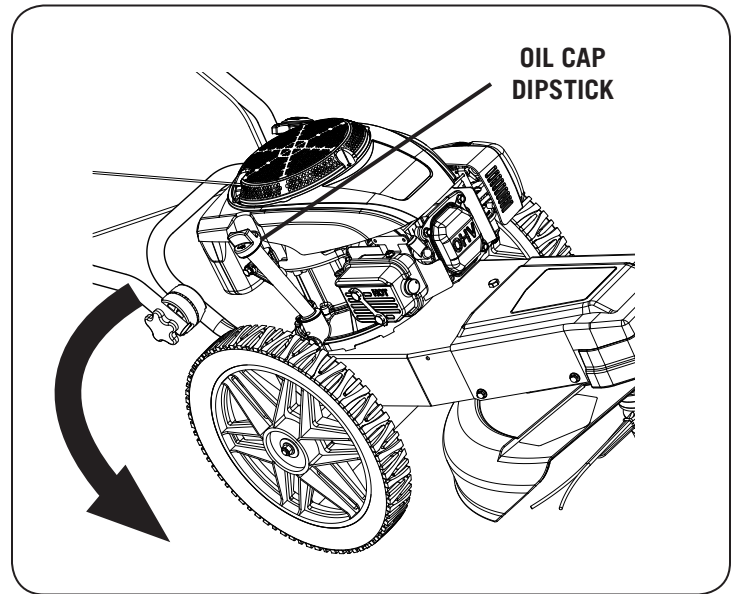

Figure 14
4. Using the handle of the string trimmer, tip the string trimmer to drain the oil out through the oil filler tube into a suitable receptacle. (see Figure 14).